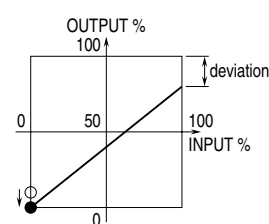

Fig. 7
- 3) With 0% input, adjust the output to 0% with Zero adjustment. See Figure 7.